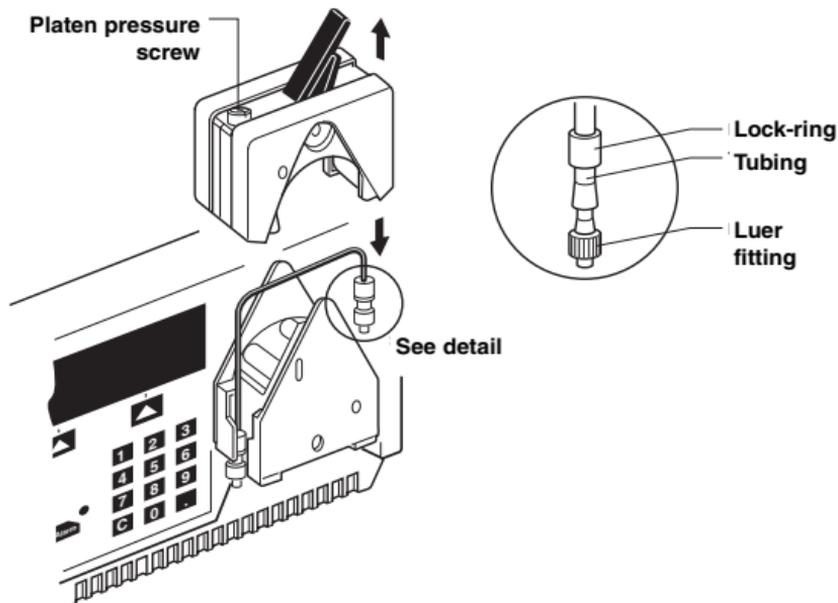

Fig. 1. BioLogic LP system setup.
1. Install 1.6 mm ID tubing in the pumphead. Adjust the platen pressure screw on the pumphead — using a screwdriver or coin, turn the screw counterclockwise as far as it will go, then turn clockwise three full turns. Assemble with fittings and lock rings as shown in Figure 1. (Use orange lock rings and medium size barb fittings with 1.6 mm tubing.)